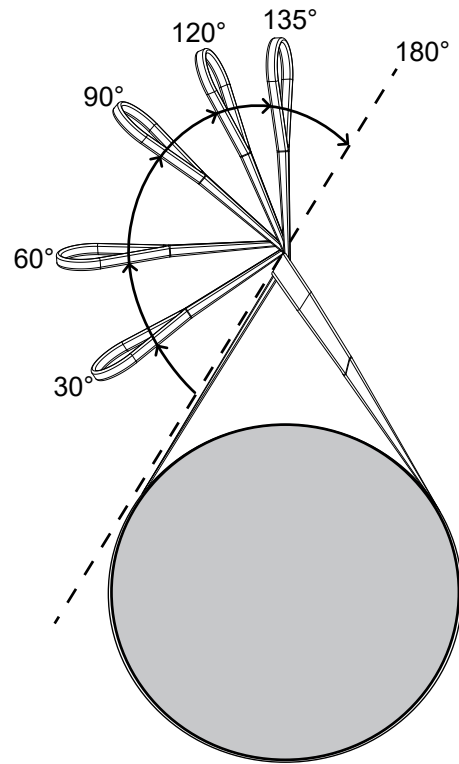

Figure 5. Choke Angle
- If the choke angle (Figure 5) is 120 degrees or less, the lifting strength of the slings must be de-rated as shown in Table 1, in accordance with ASME Standard B30.9.